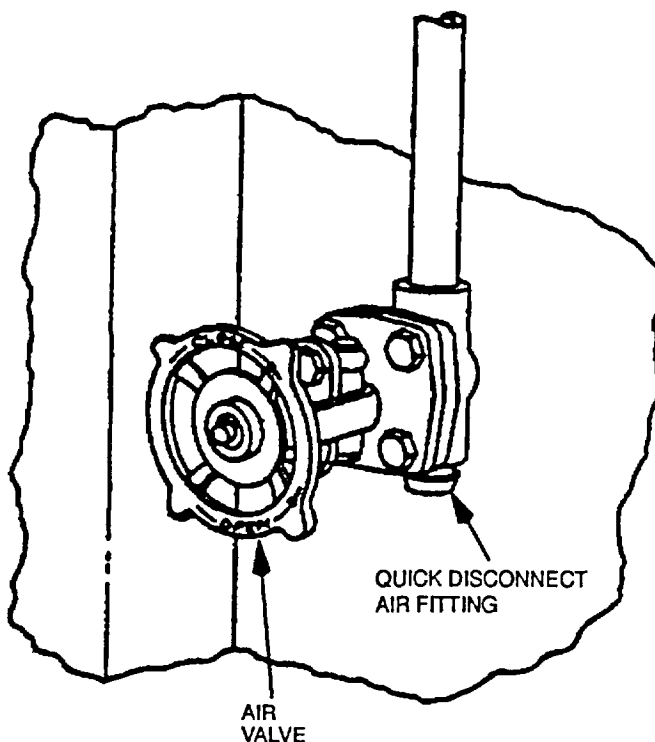

Figure 12-8. Air Station Valve and Quick Disconnect
- a. Connect air hose to compressed air station quick disconnect coupling (Figure 12-8). Open air station air valve by turning counterclockwise.
- f. Open air station valves 1 through 5 and 7 by turning counterclockwise until they stop (Figure 12-8). Leave them open.